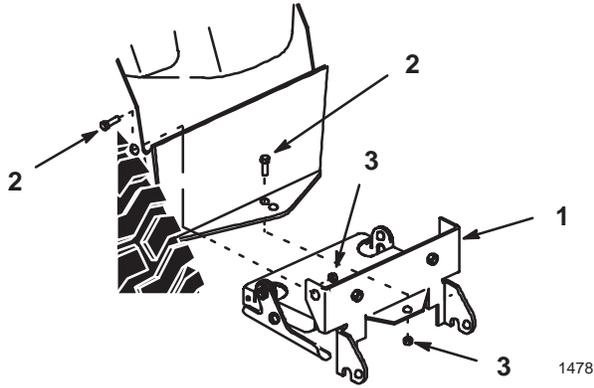

Figure 8
5. Install rear mounting plate\blade bracket assembly under and inside rear frame member with short tongue rearward (Fig. 8). Secure with (3) 1/2 x 1-1/4" bolts and (3) 1/2" lock nuts at holes in frame side members and tongue forward hole (Fig. 8).